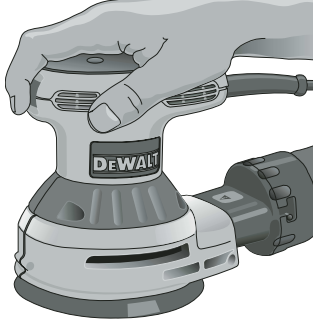

FIG. 6
| C. Sanding pad | F. CFS disc (Fig. 6) |
- 2. As part of **CFS (Controlled Finishing System®)**, your sander is equipped with a replaceable disc (F) which is located between the pad (C) and the sander body (G). It is designed to increase the dust collection efficiency and control the pad speed while the unit is off the work surface. The disc is designed to be a consumable part and will occasionally need to be replaced. Replacement is necessary when the pad speed increases very dramatically when the unit is lifted from the work surface.
- TO REPLACE YOUR CFS DISC (FIG. 6)**
- b. Remove the pad (C).
- c. Remove worn CFS disc (F).
- e. Align the notches (H) on the CFS disc with the seams in the sander body.